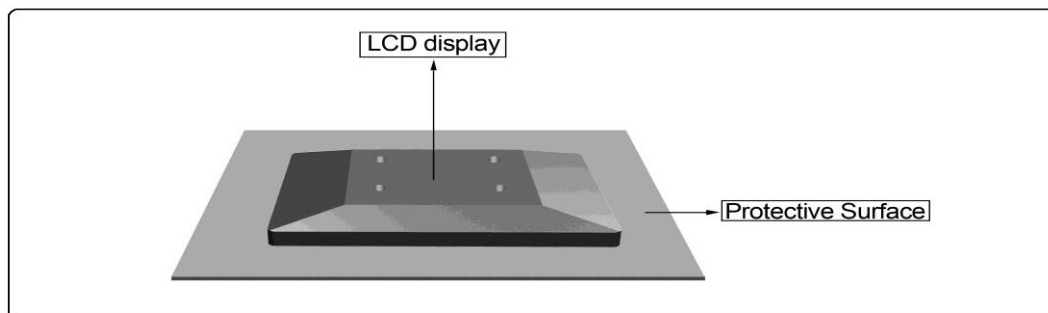

Figure 2-2
2. Carefully place the display face down on protective surface **(See Figure 2-2)**.